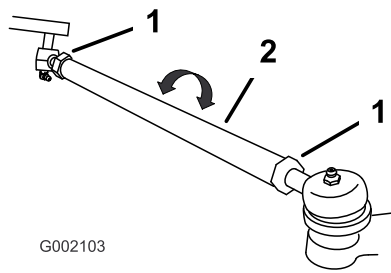

Figure 34
4. If the measurement does not fall within 0-1/4 inch (0-6 mm), loosen the jam nuts at both ends of the tie rods (Figure 34).